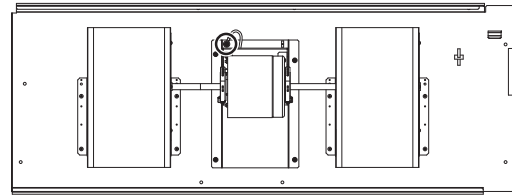

Fig.6
- (1) Remove the grounding wire of the motor wire from the motor base (Fig. 6).